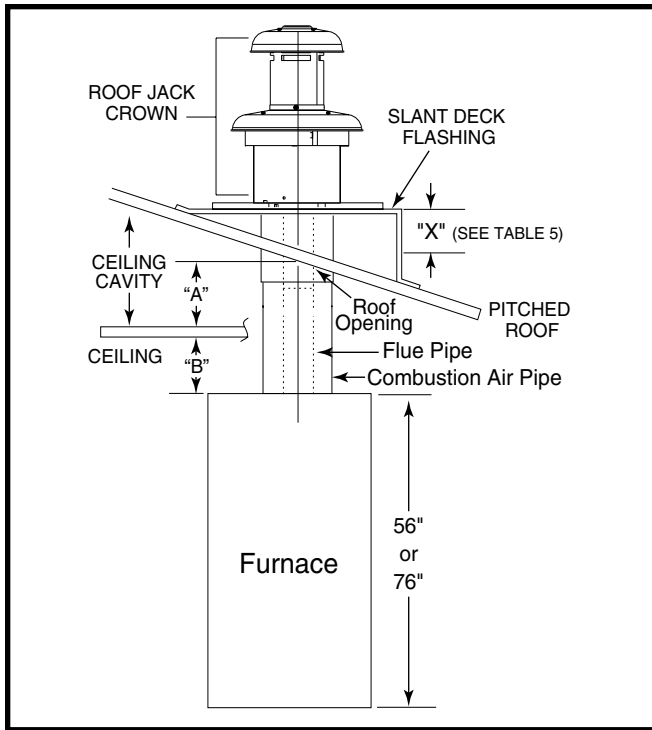

Figure 16. Ceiling Cavity Depth
1. Determine depth of ceiling cavity from center of roof opening to center of ceiling opening noted as "Dimension A" in Figure 16 \(page 10\).
2. Determine ceiling height and subtract height of furnace noted as "Dimension B" in Figure 16.